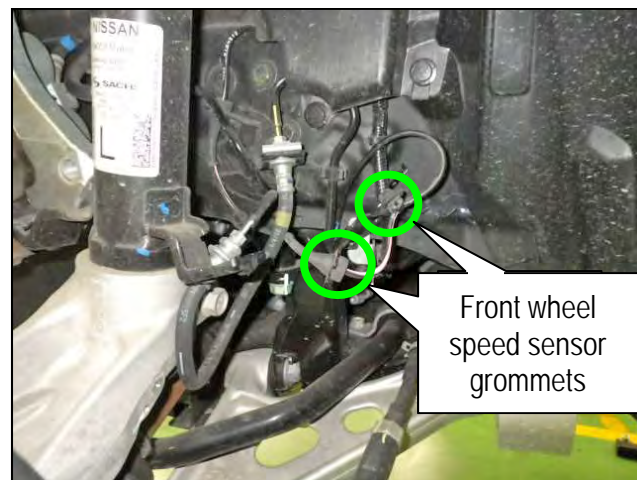

Figure 2
5. Separate the front wheel speed sensor harness grommets from the front wheel speed sensor harness bracket (Figure 2).